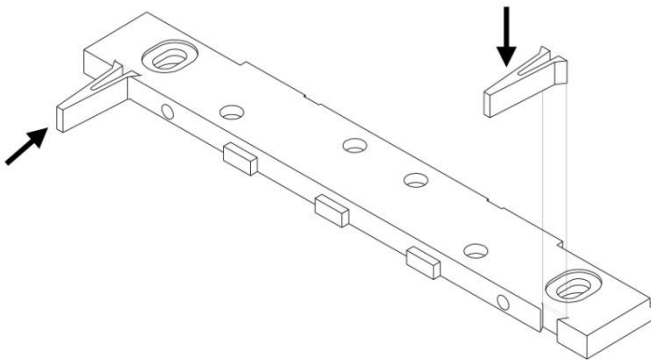

Figure 9. Inserting the Spacers
2. PINCH and INSERT spacers flush into the dovetail slots of the lock-mounting bracket (see Figure 9, "Inserting the Spacers").